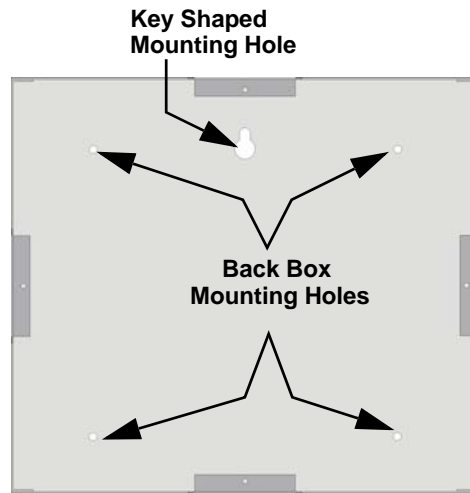

Figure 4-26 Back Box Surface Mount Holes
2. To properly mount the back box, insert a single screw into the key shaped mounting hole. Do not tighten all the way. See Figure 4-26.